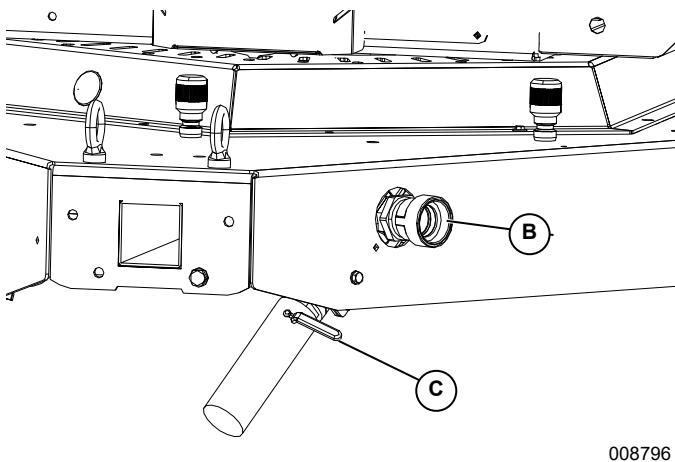

Figure 4-3. Disconnect Hose and Open Valve
2. See **Figure 4-3**. Disconnect hose from inlet (B) and open inlet drain (C).